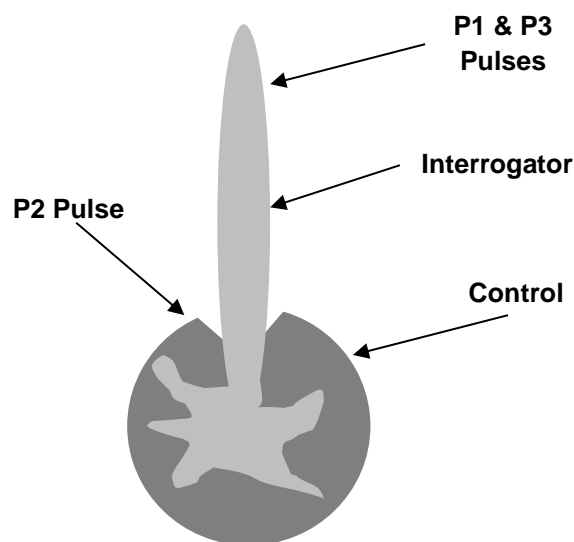
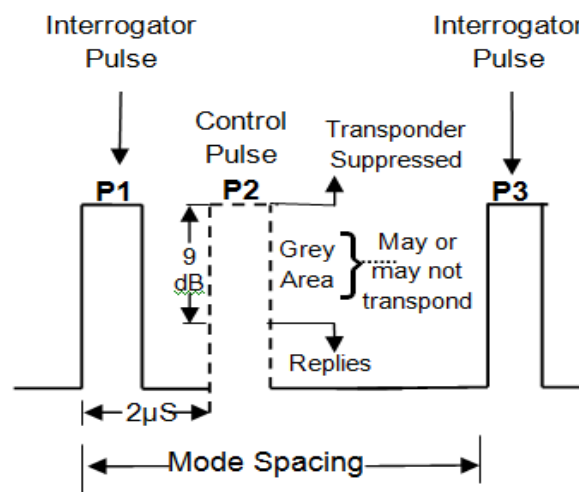

Figure 6 - 3 pulse aerial polar diagram
Figure 7 - 3 pulse Side lobe Suppression pulse spacing
24. It is thus necessary to suppress any interrogator sidelobes which would be capable of triggering responses and the 3-pulse sidelobe suppression system has been adopted as the international standard technique. Each interrogation consists of a group of three pulses denoted P1, P2, and P3. The spacing of the pulses is shown in Fig 7; P2, known as the control pulse, is spaced at a constant $2 \mu s$ from P1, and the spacing between P1 and P3, the interrogation pulses, is according to the mode as listed in Table 1. The interrogation pulses P1 and P3 are transmitted from a rotating interrogator aerial, and the interrogation pulse P2 is transmitted from the control aerial, producing radiation patterns as shown in Fig 6. The interrogator aerial produces a high-power, narrow beam with lower-power sidelobes. The control aerial radiates an omnidirectional signal which is modified to produce a radiation pattern trough in the direction of propagation.
25. By comparing the relative amplitudes of the control and interrogator pulses, the transponder determines whether the interrogation is a correct, main lobe one, or due to a Sidelobe. P1 and P3 amplitudes are greater than a P2 amplitude only (fig 7) for a correct main lobe interrogation and the transponder will then reply; if P2 is greater than P1 and P3 the transponder is suppressed. The discrimination levels are indicated on fig 7 which shows that there is a 'grey area' where the transponder may or may not reply.